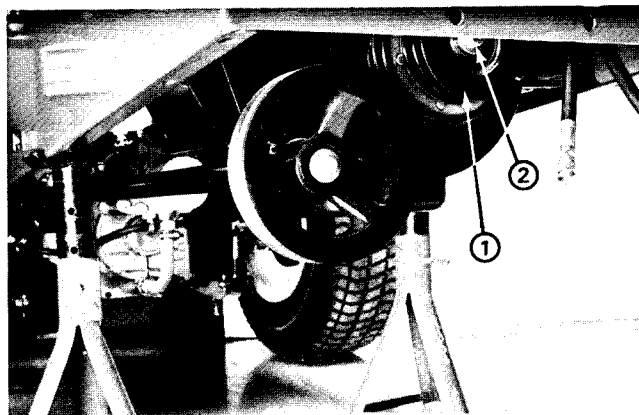

Figure 10
3. Remove the cap screw and spacer securing the clutch to the engine shaft (Fig. 10). Hold a long screwdriver through the coupler at the front of the engine to prevent the crankshaft from rotating (Fig. 11).